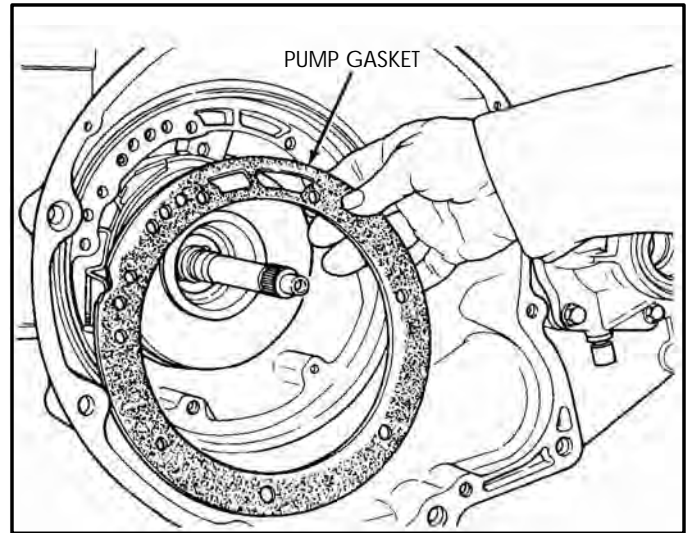

Figure 232
16. Install the proper oil pump to case gasket, as shown in Figure 232.